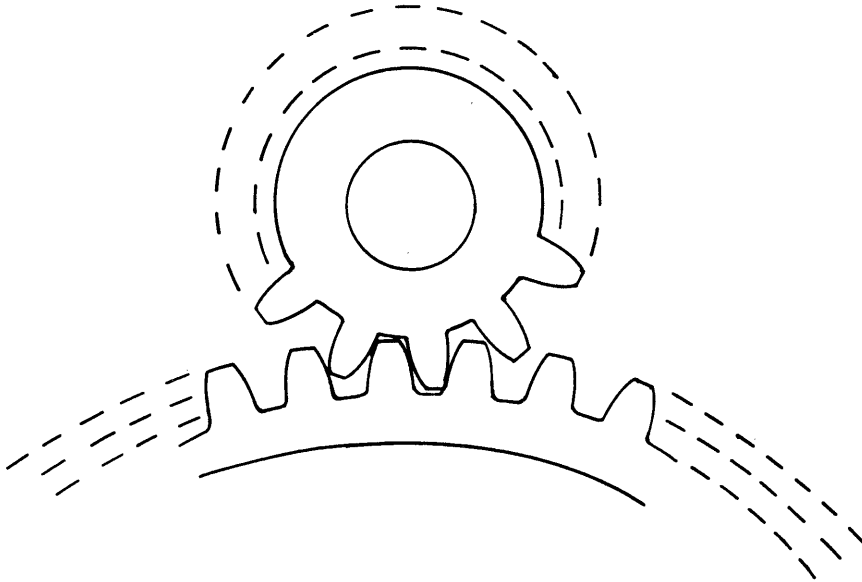

FIGURE 5-3 SERVO GEAR MESH
2.	Observe the position of the servo drive gear with respect to the large gear on the servo mount. The capstan should be able rotate one quarter of a degree to one eighth of a degree (Figure 5-3).
Reference Figure 5-3, page 5-15 and Figure 6-1 on pages 6-3 and 6-5.